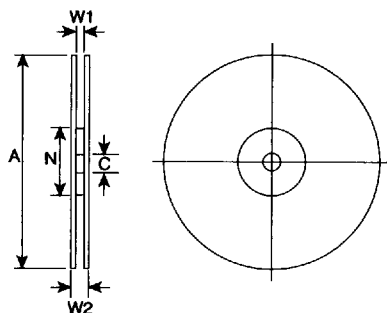

Fig.4 Reel Dimensions
Timing (Figure 4)
6.1 Tape will be wound on anti-static plastic reels (See Figure 4)